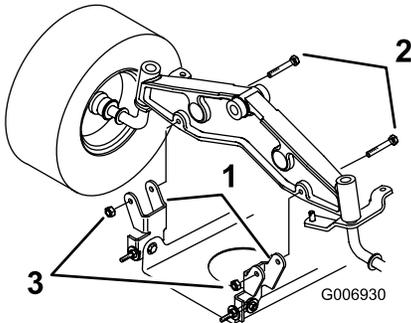

Figure 51
8. Remove the bolts and lock nuts and pull the two cutter deck pivot mount brackets down from the front axle (Figure 51).